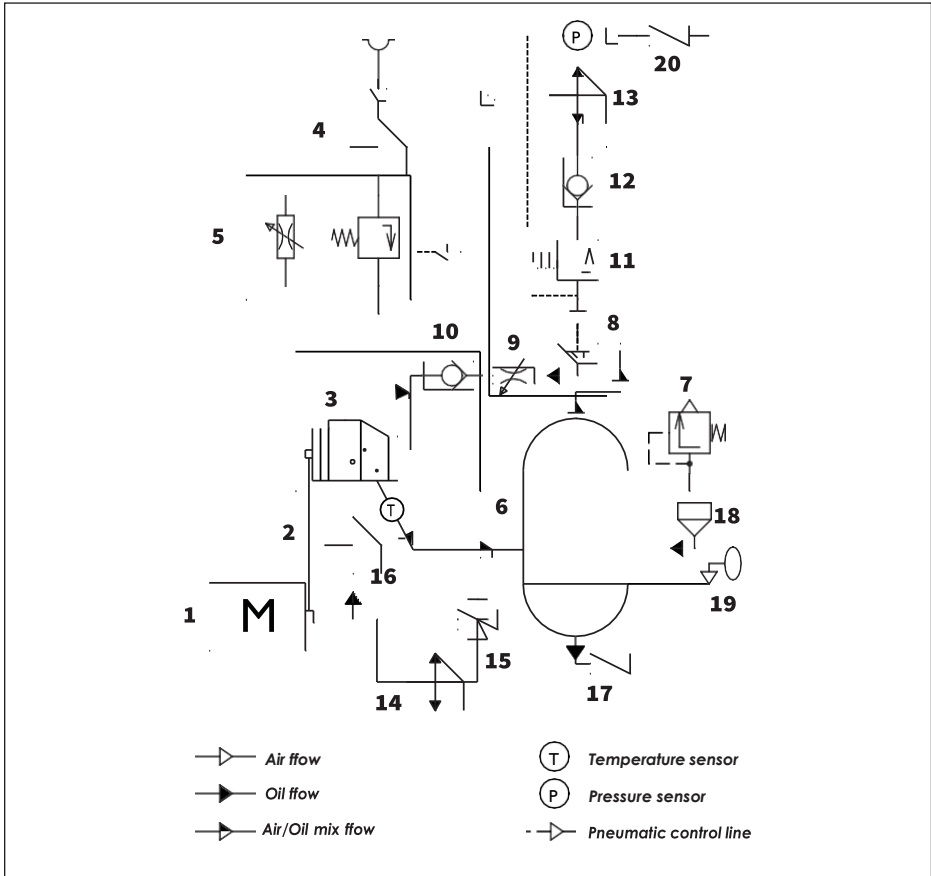

Fig. 2.3 Function diagram AV30-55
2.4 Functional description (see Fig. 2.3)